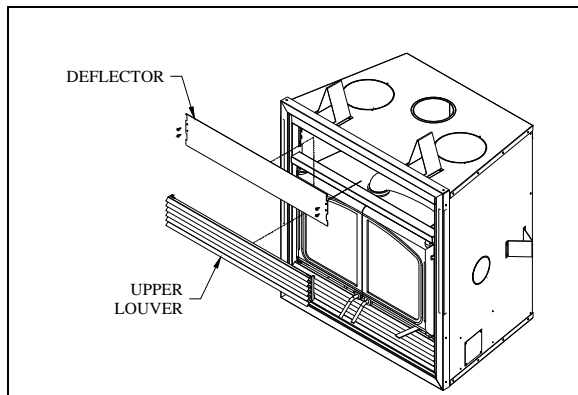

Figure 12
- b) Install the deflector as shown on figure 12;